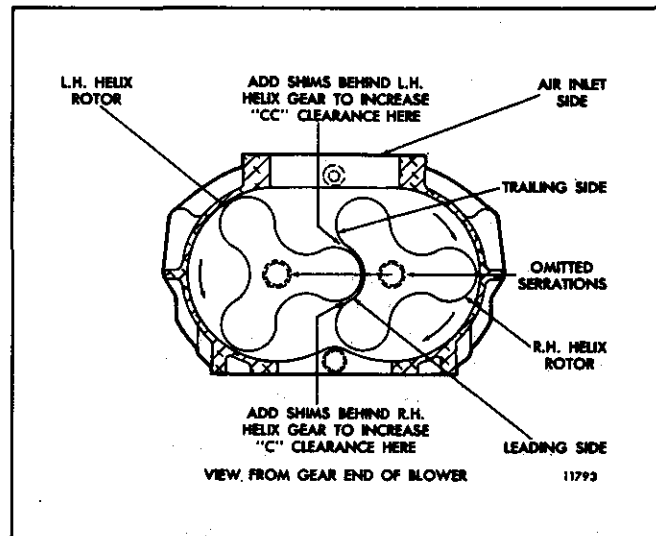

Fig. 20 – Diagram Showing Proper Location of Shims for Correct Rotor Lobe Clearances
6. After determining the amount one rotor must be revolved to obtain the proper clearance, add shims back of the proper gear as shown in Fig. 20 to produce the desired result. When more or less shims are